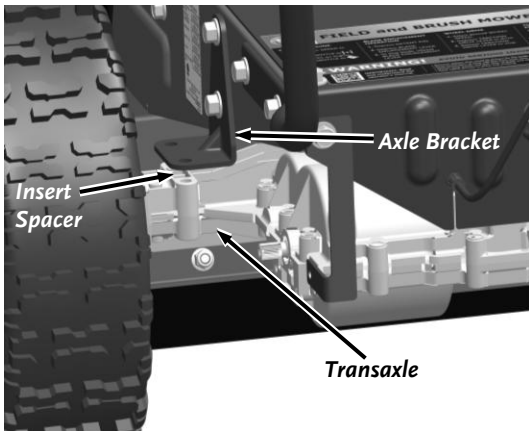

Figure 26
8. Lift the machine up by the Handlebars and insert a Spacer (1/4" to 1/2" thick) in between the Axle Bracket and Transaxle on both sides (Figure 26).
13. Lift the Handlebar and remove the Spacers between the Axle Bracket and Transaxle (Figure 26).